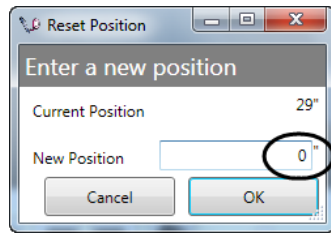

Figure 124
3. Enter "0" in the **New Position** field and click **OK** (Figure 124).